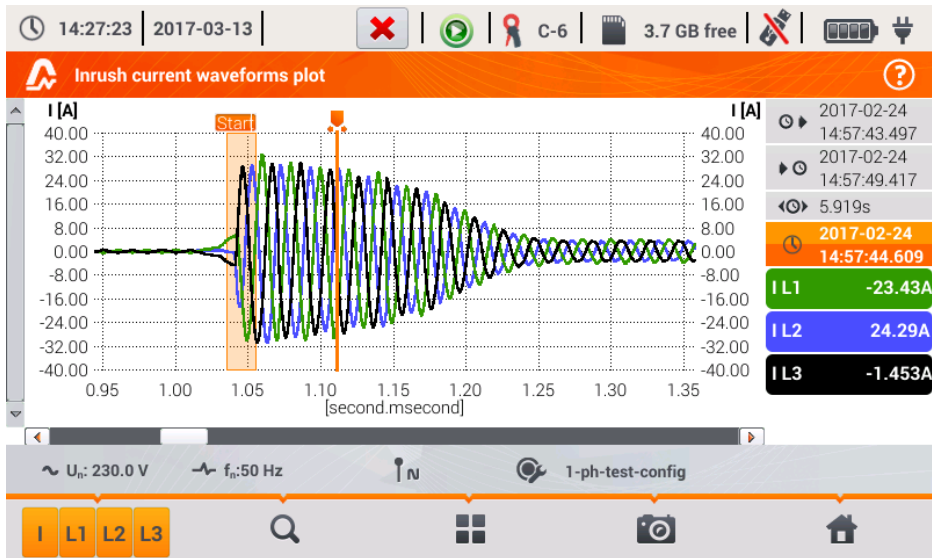

Fig. 7. Inrush current analysis – waveforms plots.
After the time elapses, the recording process ends and the analyzer automatically starts the analysis of measured inrush parameters, displaying the timeplot with current waveforms for the entire recording interval. An example of the screen displayed during the start-up of a 3-phase motor is shown in Fig. 7.
- plot of inrush waveforms (Fig. 7; option available in the view of a plot for $RMS_{1/2}$ and as a table).